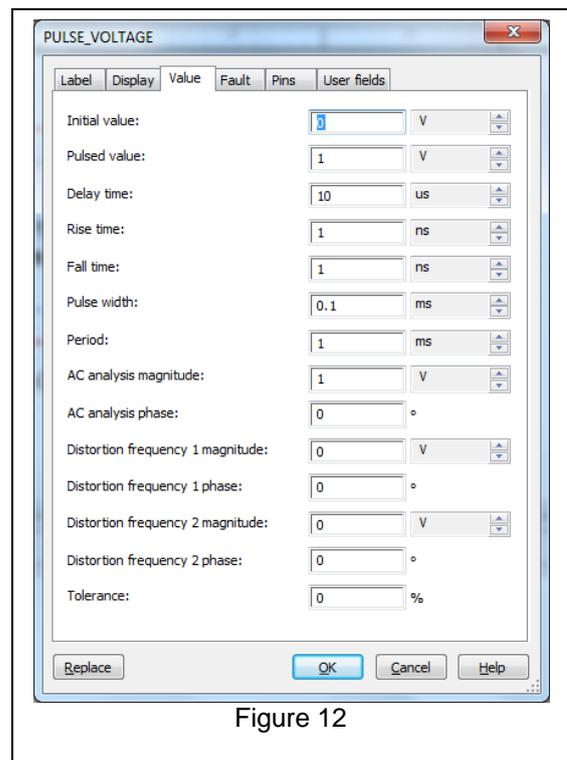

Figure 12
2. Double-click on the pulse voltage source and set the values as shown in Figure 12.